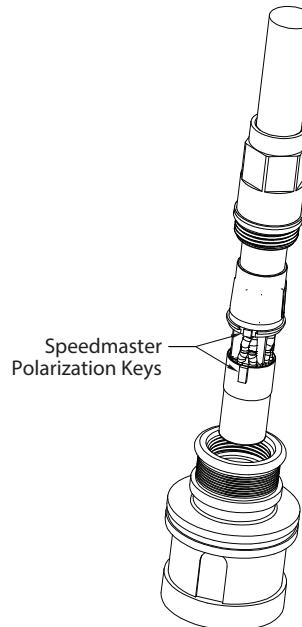

FIGURE 1
- A. Slide completed SpeedMaster into the contact cavity, making sure to align the SpeedMaster's polarization keys with the contact cavity keyway. (Figure 1)